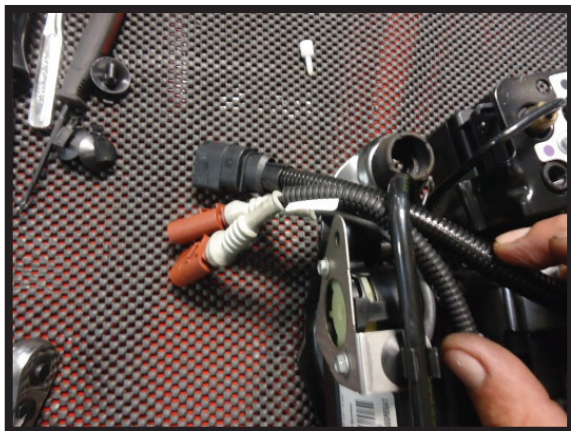

FIGURE 18
4. Route the compressors wiring harness as shown and mount the plugs to the mounting clip. (FIGURE 18)